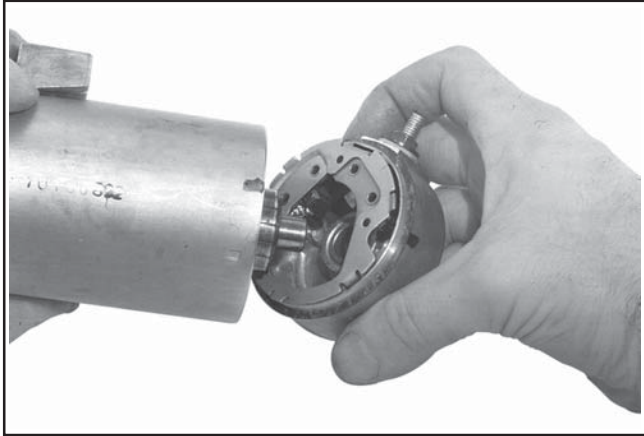

Figure 8-53. Installing End Cap Assembly.
5. Assemble the end cap assembly to the starter, inserting the commutator below the brushes and gently guiding the end of the armature shaft into the bushing within the end cap, against the brush spring tension. See Figure 8-53.